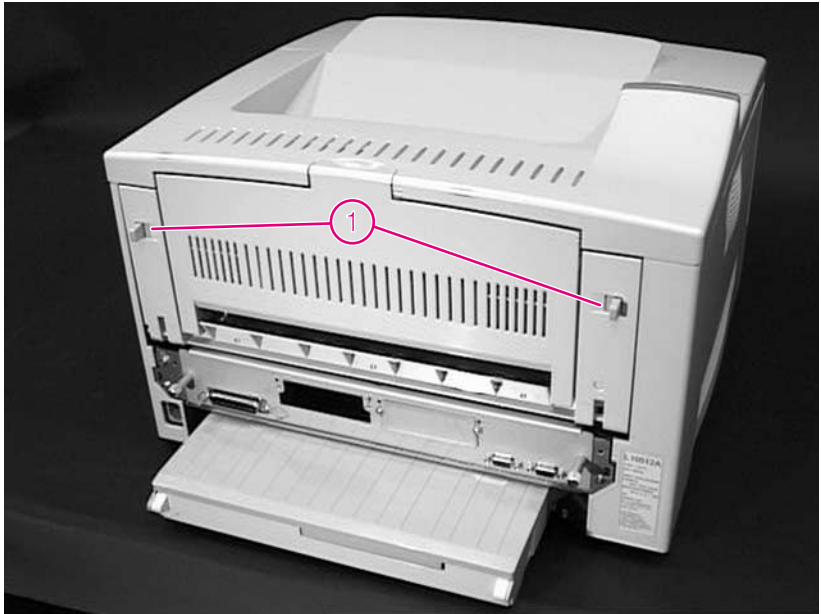

Figure 16 Opening the rear door
- 1 Facing the rear of the printer, press the two locking tabs (Figure 16, item 1) toward the center of the printer to open the rear door.